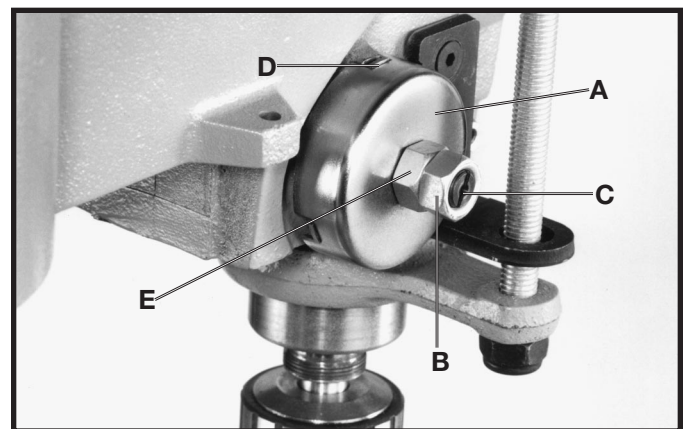

Fig. 33
2. Remove nut (B) Fig. 33. Loosen nut (E) approximately 1/4 turn, making sure spring housing (A) stays engaged with head casting.
3. While **FIRMLY HOLDING** spring housing (A) Fig. 33 pull out housing and rotate it until boss (D) is engaged with the next notch on the housing. Turn the housing counterclockwise to increase or clockwise to decrease spring tension. Then tighten nut (E) and then nut (B), to hold the housing in place. **IMPORTANT: Inside nut (E) should not contact spring housing (A) when tightened.**